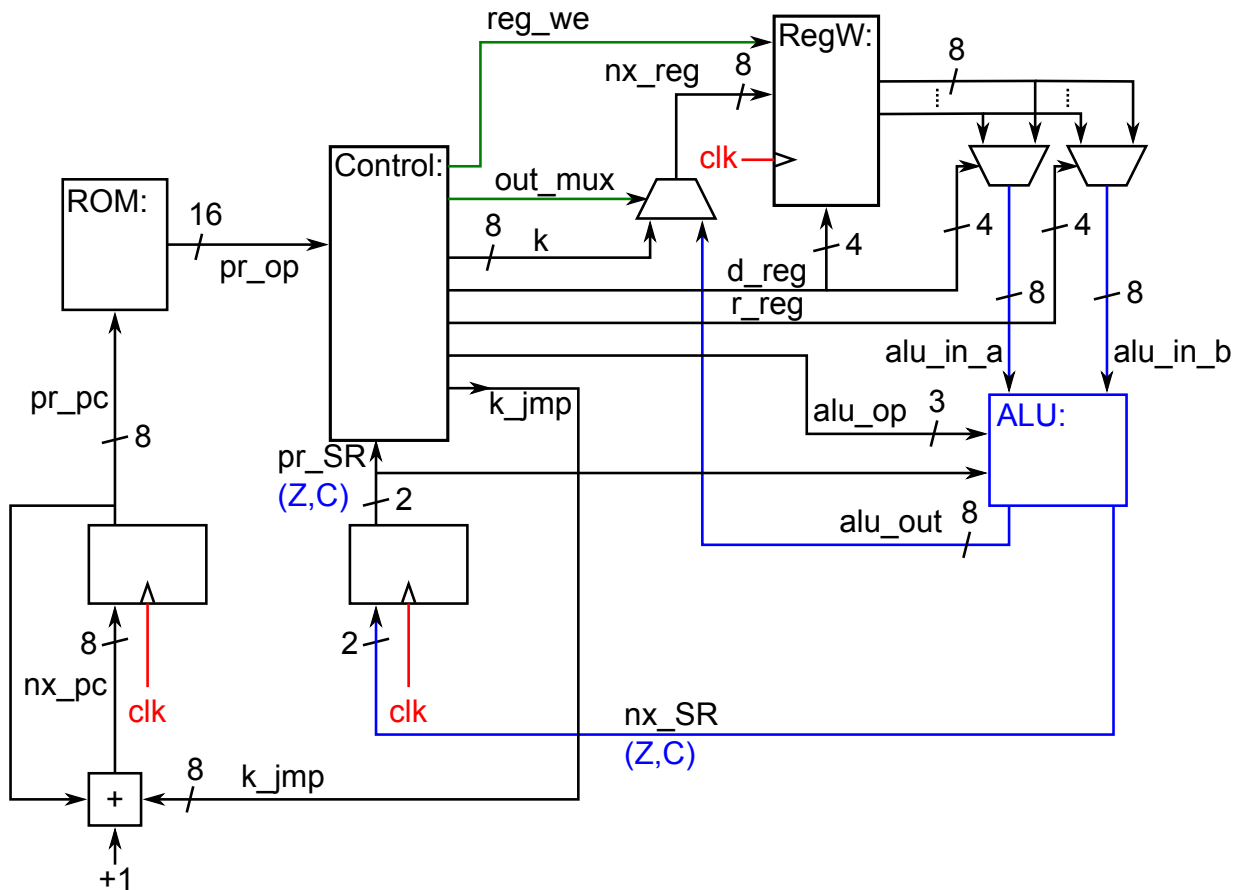

Figure 3: Mini AVR architecture with relative jumps.
The Mini AVR architecture of *Figure 3* has in its ROM the following code:
- Describe the value of all the significant signals in *Figure 3* just before the rising edge of the seventh clock of the previous waveform.
³This general reset is not shown in *Figure 3*.